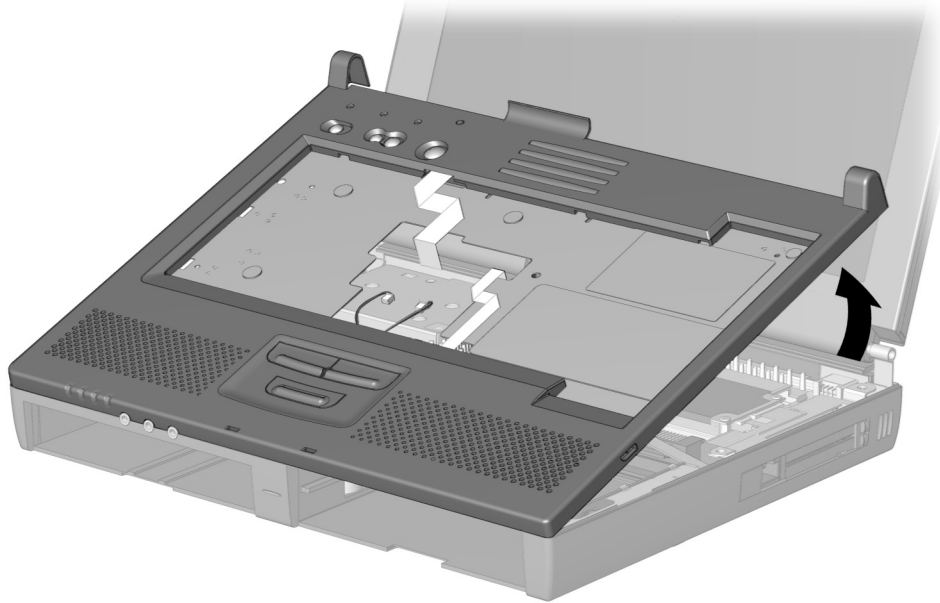

Figure 5-34. *Removing the CPU Cover*
14. Lift the back edge of the CPU cover and swing it forward to remove it (Figure 5-34).